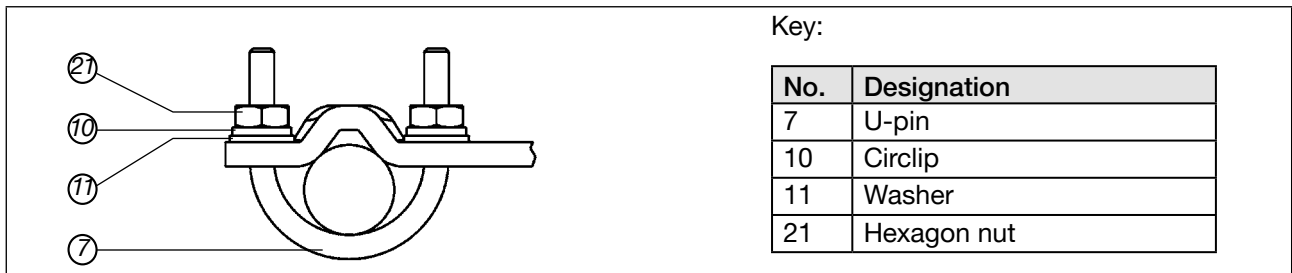

Figure 17: Attach positioner with mounting bracket; for actuators with columnar yoke
→ Attach mounting bracket to the columnar yoke (21) with the U-bolt (7), washers (11), circlips (10) and hexagon nuts (see “Figure 17”).